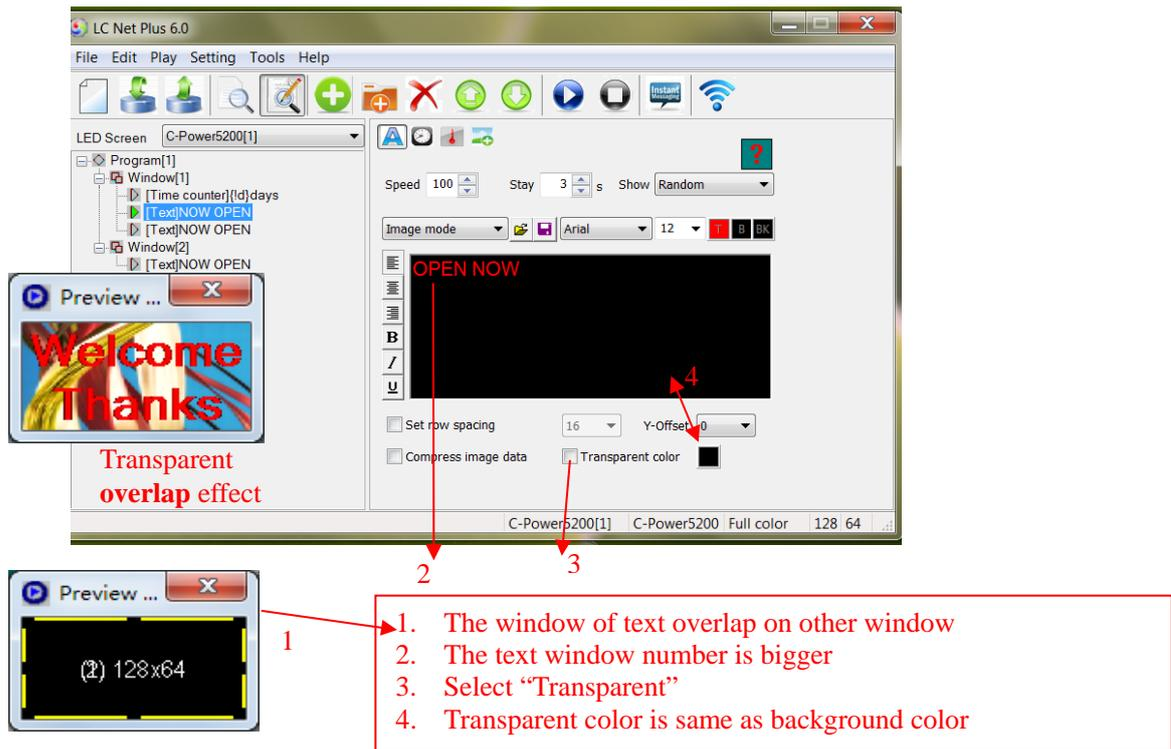
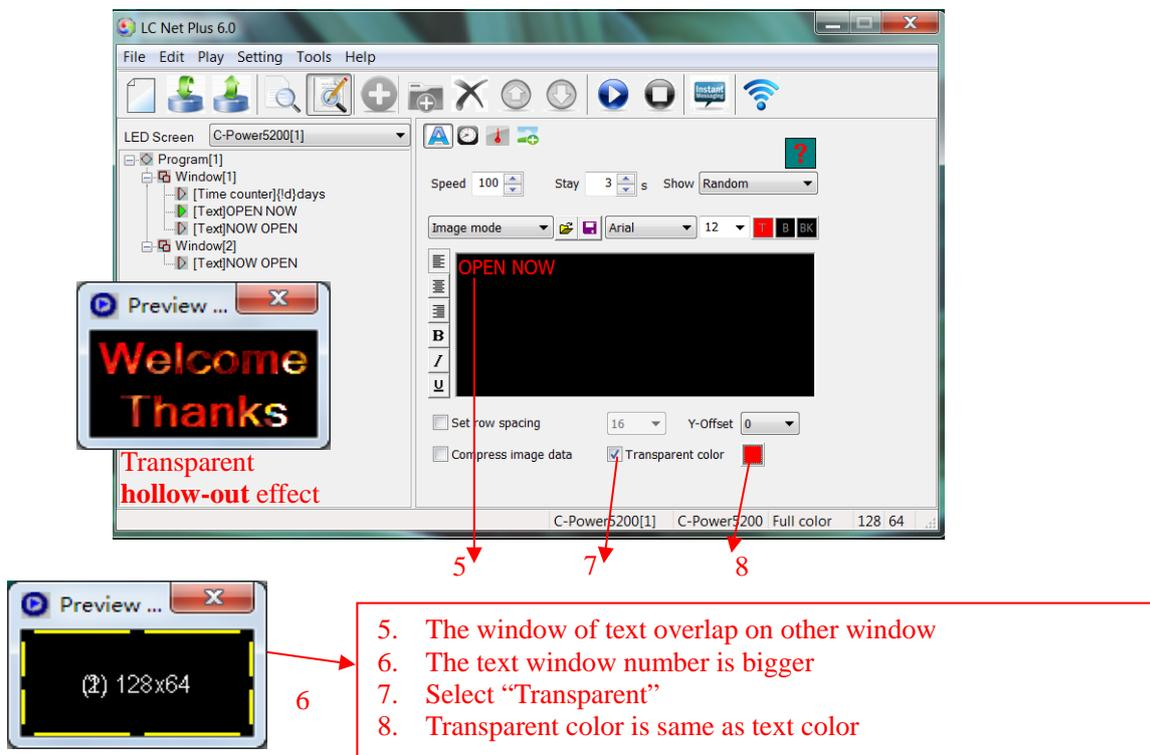

Figure23 Text transparent overlap setting
Figure24 Text transparent hollow-out setting
- **Transparent or hollow-out:** Text program can set to be transparent or hollowed-out, and overlay on a picture, animation or video program, as shown in Figure23 and Figure24.
- **Transparent or hollow-out:** Text program can be set to transparent or hollow-out, and overlay a picture, animation or video program, as Figure23 and Figure24 shown.
Text program can be set to overlay a picture, animation or video program’s window, as Figure23 or Figure24 shown. Use the following settings: